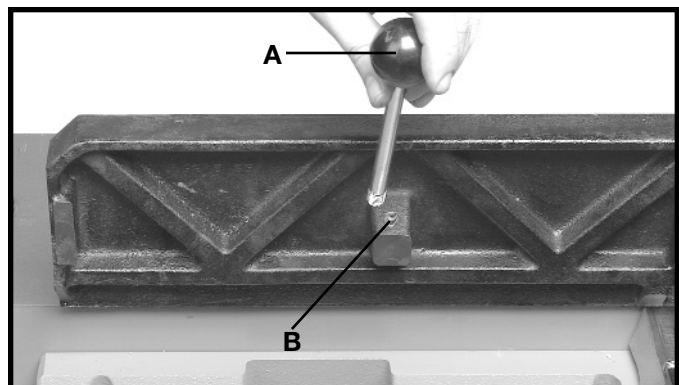

Fig. 14
3. Thread the fence tilting handle (A) Fig. 14, into the tapped hole (B) in the fence.